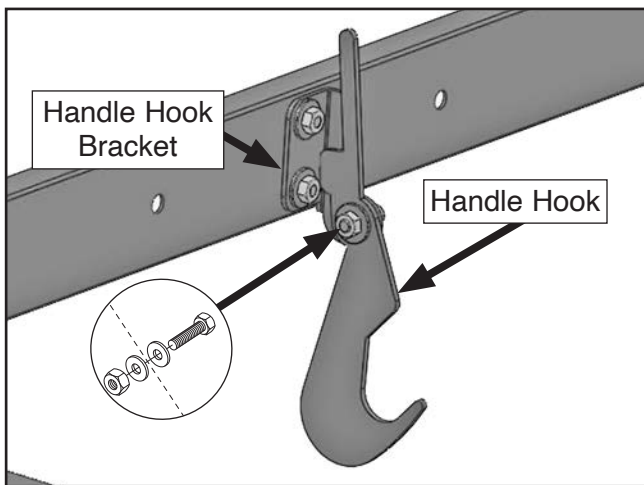

Figure 37. Handle hook attached to hook bracket.
39. Attach handle hook to bracket using (1) $\frac{3}{8}$ "-16 x 1" hex bolt, (2) $\frac{3}{8}$ " flat washers, and (1) $\frac{3}{8}$ "-16 lock nut (see **Figure 37**).